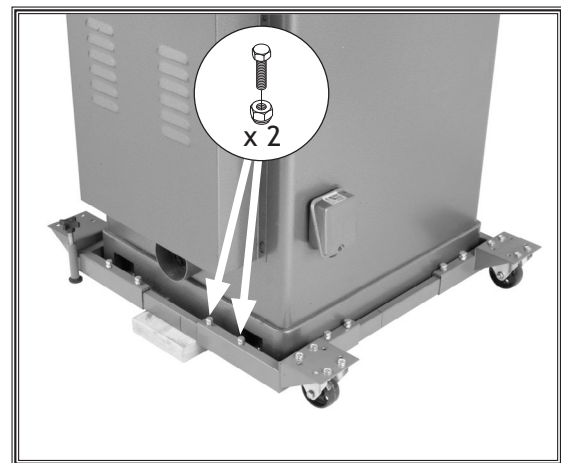

Figure 23. Rear fixed caster assembly secured to side rail (only one side shown).
19. Secure each side with (2) M8-1.25 x 16 hex bolts and 8mm lock nuts, as shown in **Figure 23**.